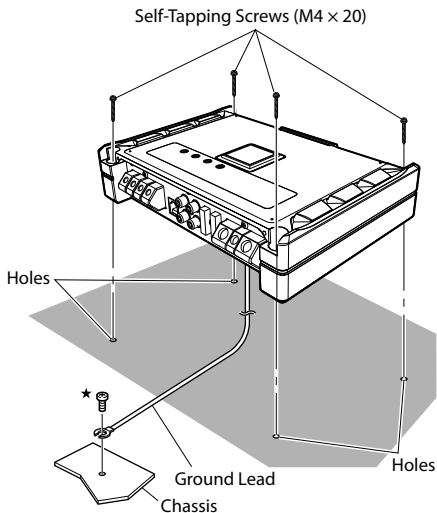

Fig. 3
6. Position the PDR-M65/PDR-F50 over the screw holes, and secure with four self-tapping screws. (Fig. 3)